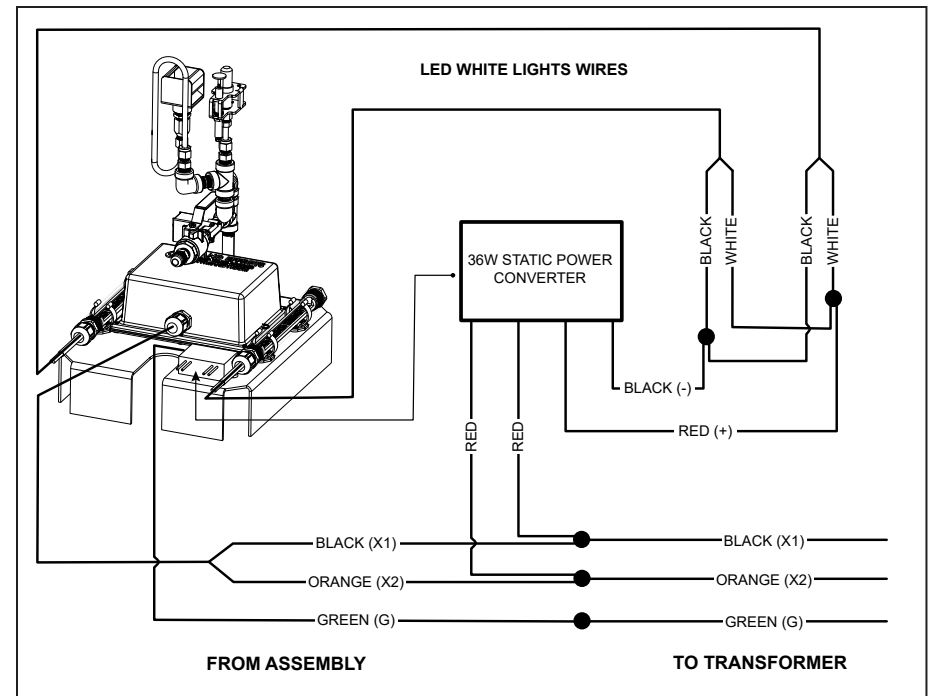

Figure 9. Burner and LED White Lights Wiring
- **To operate the LED white lights and burner simultaneously from the same transformer**, wire the 36W Static Power Converter and burner as shown in Figure 9.
4. Wire the burner and LED white lights with waterproof wire nuts according to Figure 9. Refer to section 3.2.2 for alternative LED white light wiring options.